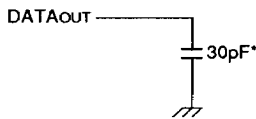

Figure 1. Output Load
Output Load	See Figures 1, 2 and 3
1. Transition is measured ±500mV from low or high impedance voltage with load (Figures 1, 2 and 3).